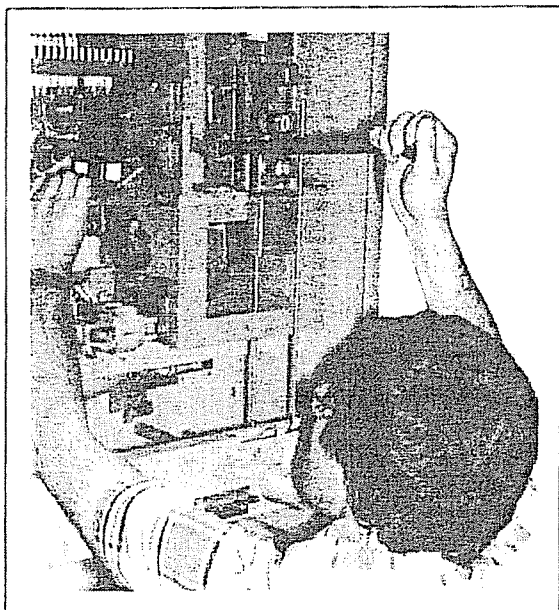

Figure 15
- 3 Using the manual charging handle, slowly charge the springs until the holes in the outer spring guide align the bottom end of the inner spring guide. See Figure 15.